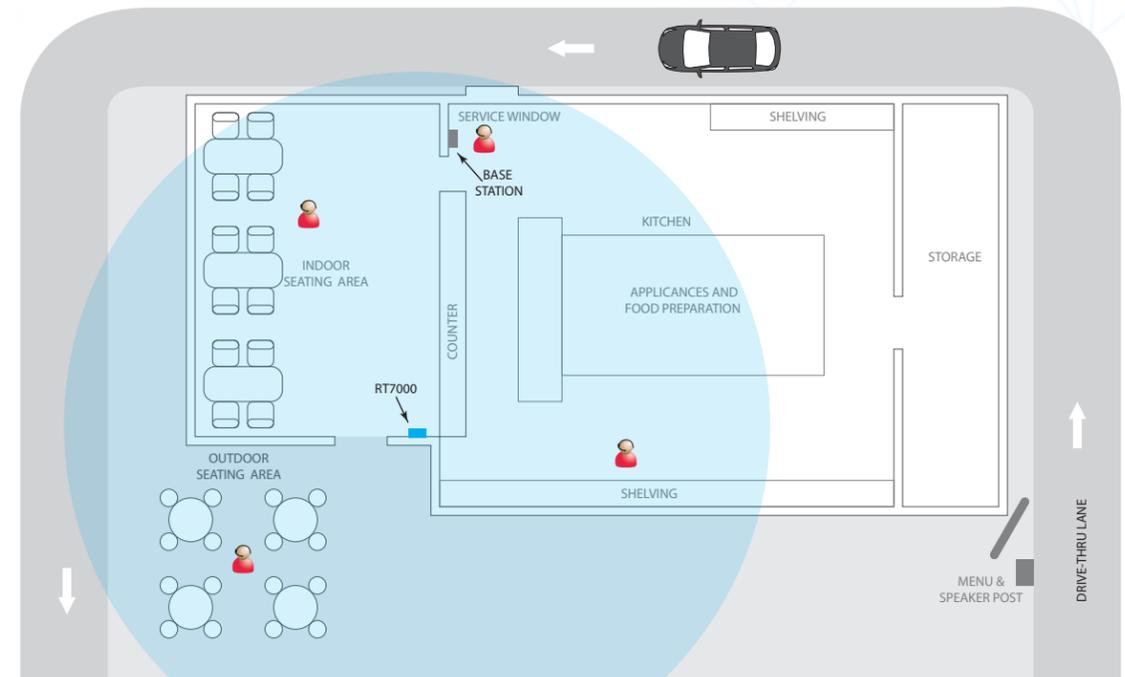

Fig. 1.3
- Choosing a good RT7000 (transceiver) mounting location is critical (see Step 5, Fig. 1.3, 1.4, and Component Notes on page 3 for more details). See page 4 for tools/equipment required.
- 5 Critical Step:** Loosely mount the RT7000 in a central location for optimal coverage (until range tested in steps 9 & 10 using the Installation Wizard). For example, notice Fig. 1.3 and 1.4. They show two different store layouts with specific targeted areas where the headsets are primarily used. In these examples, the location selected for the RT7000 (represented by the small blue rectangle) offered the best coverage indicated by the blue circled areas. Each store required the RT7000 to be mounted in a different but central location to provide the best all-around coverage unique to the store's need. Store layout and obstructions also affected placement and range. (see "Component Notes" on page 3 for more details on the RT7000 placement).